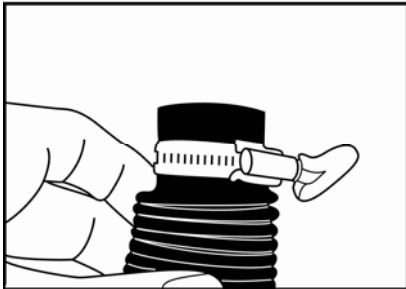

Fig. 9
3. Place the hose clamp onto the free end of the breathing tube. (Fig. 9)